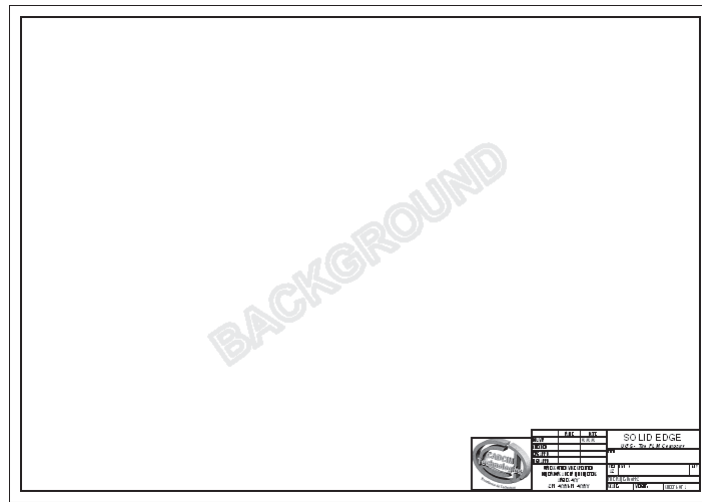

Figure 12-32 Title block with the image
- b. Set up the drawing sheet and the background sheet, refer to Figure 12-32.
10. Browse and select the image file of the logo you want to use, refer to Figure 12-32.
13. Drag the image and place it, as shown in Figure 12-32. The size of the image can be modified using the handles available on the image, when it is selected.